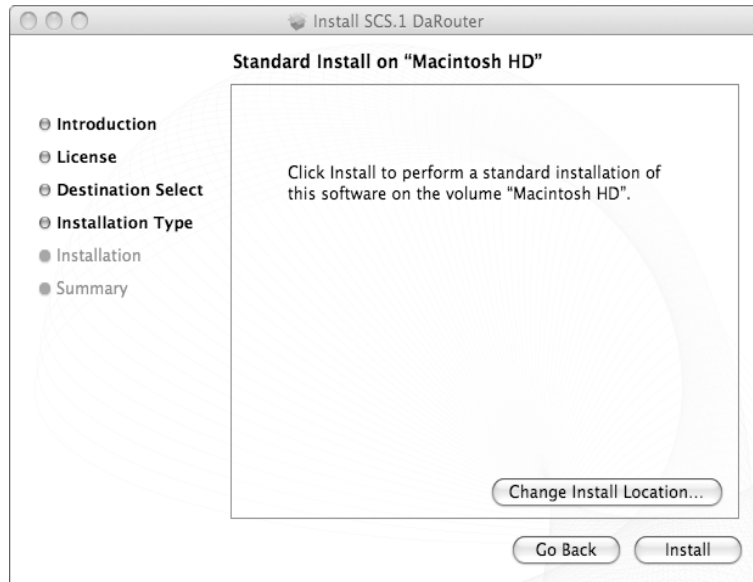

Figure 4.20
5. Next, you can set the default path of the program. Click **Install** unless you want to install DaRouter to a specific destination. (Figure 4.20)